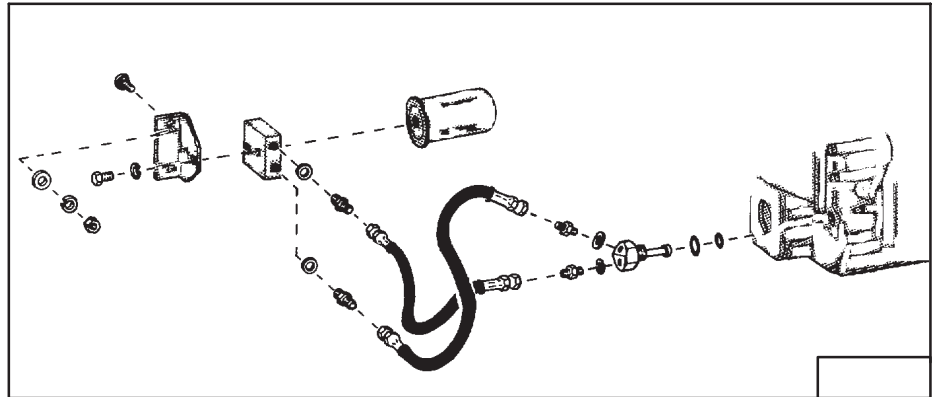

Fig. 1-13 Install Engine Oil Filter (Deutz)
2. Install new filter and hand tighten (Fig. 1-13).
1-12 ENGINE OIL FILTER (Duetz Diesel – Fig. 1-13)